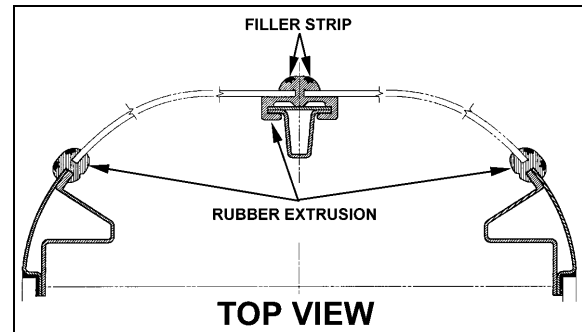

FIGURE 48: WINDSHIELD INSTALLATION TOP VIEW¹⁸⁰⁹⁸
2. Insert rope into rubber extrusion leaving enough length at each corner to make a loop. Spray soapy water onto rope and rubber extrusion (Fig. 48).